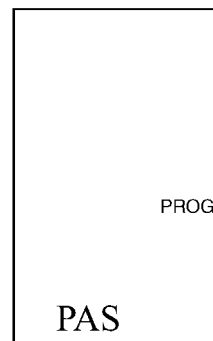

Figure-4.28 Password Frame.
5. Continue to press <Select> until the Password frame is displayed (Figure-4.28).